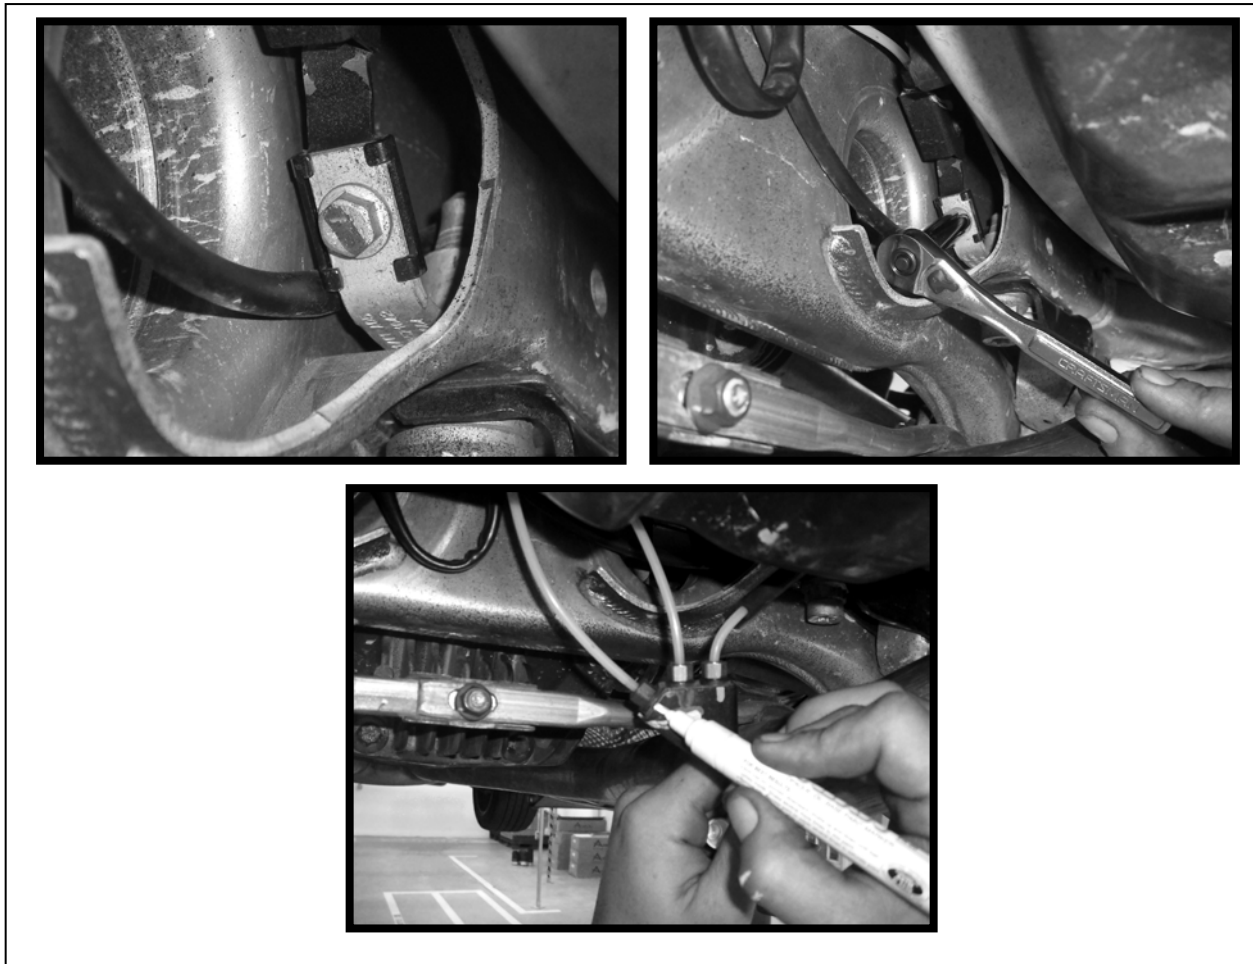

FIGURE 10-2
5.0 DISCONNECT THE AIRLINE AND THE MOUNTING NUTS FROM THE AIR BLOCK, AND MARK AIR LINES. (Figure 10-2).